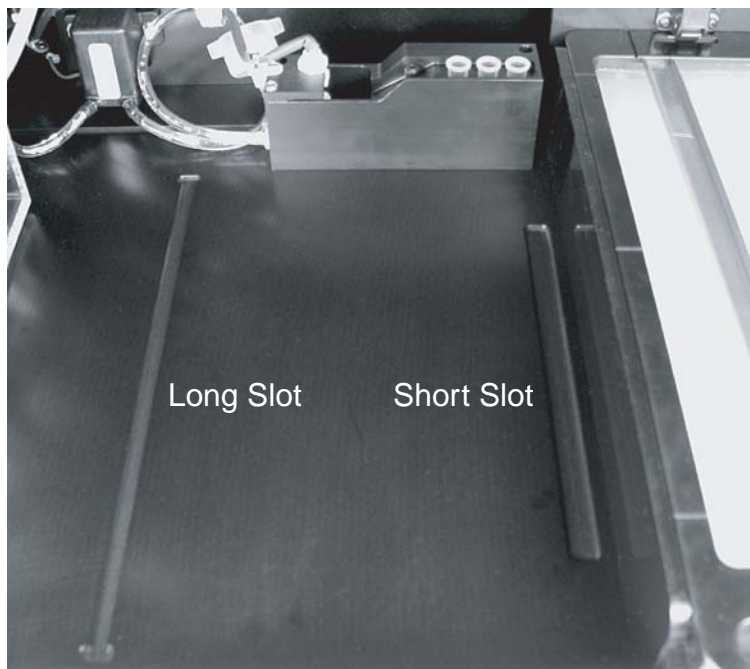

Figure 2-3. Microplate rack positioning slots.
1. Locate the two microplate rack positioning slots located on the spot cutter base plate just left of the gel tray (see Figure 2.3). Note that one slot is shorter than the other.